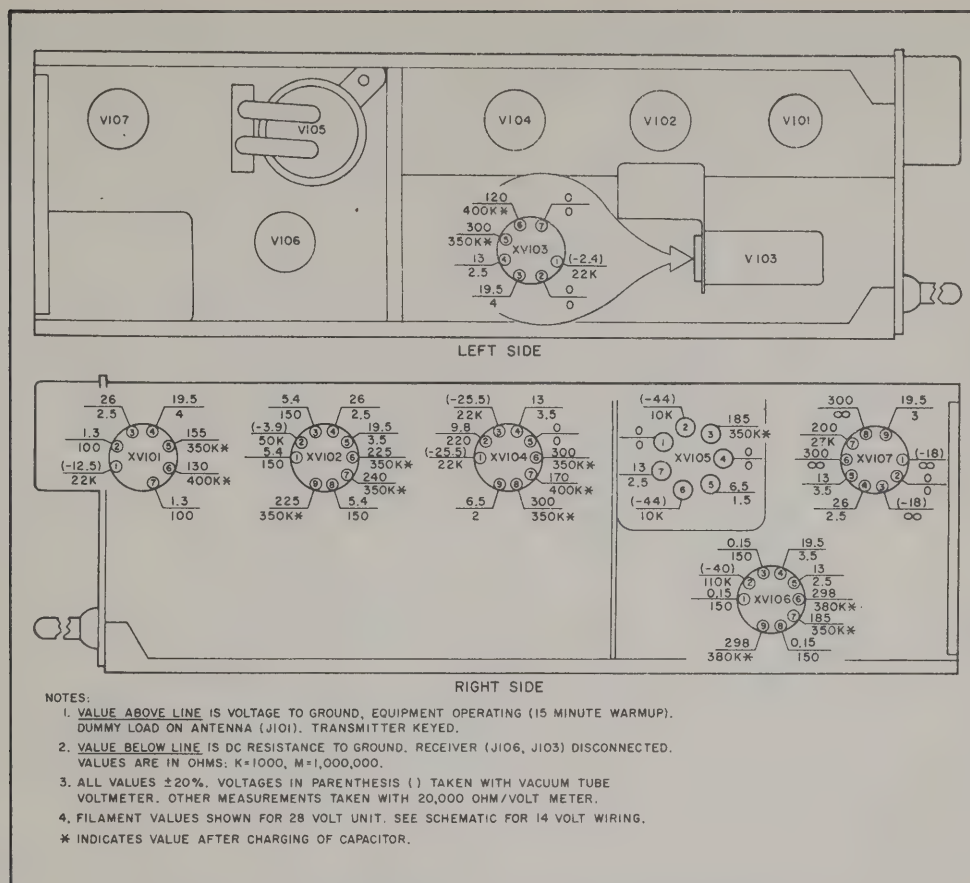

Figure 3-2. Transmitter Unit Voltages and Resistances
b. If tube OK, make V & R check of V104 (fig. 3-2). c. If voltages and resistances appear normal, proceed to 5.A.c., below.	Repair as required.